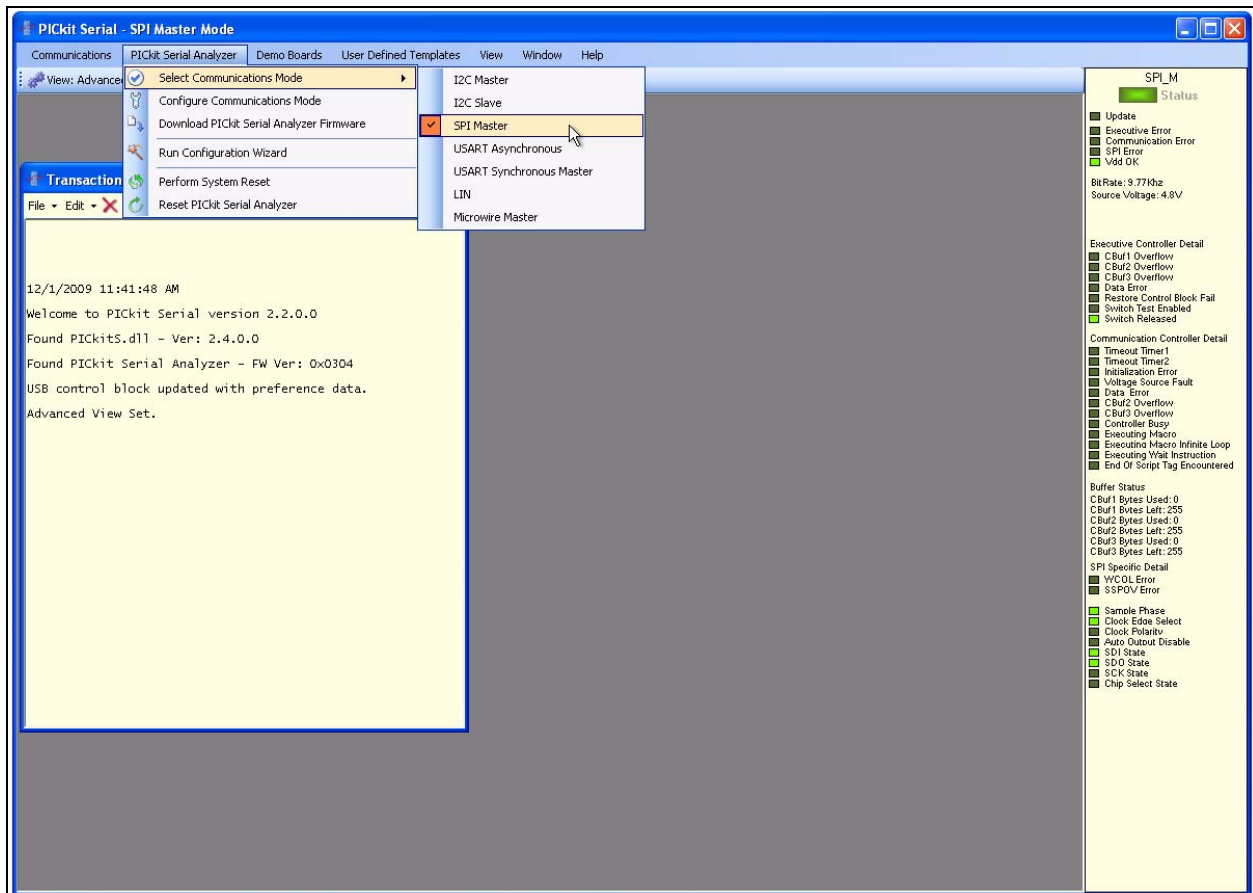

FIGURE 2-5: *PICKit Serial Selecting Communications Mode.*
We need to select the PICKit Serial Analyzer GUI to be in SPI Master mode. Figure 2-5 shows how to select the proper mode. Select *PICKit Serial Analyzer -> Select Communications Mode -> SPI Master* menu item (make sure the SPI Master item is checked).
5. Ensure the GUI is in Master SPI communication mode (see Figure 2-5).